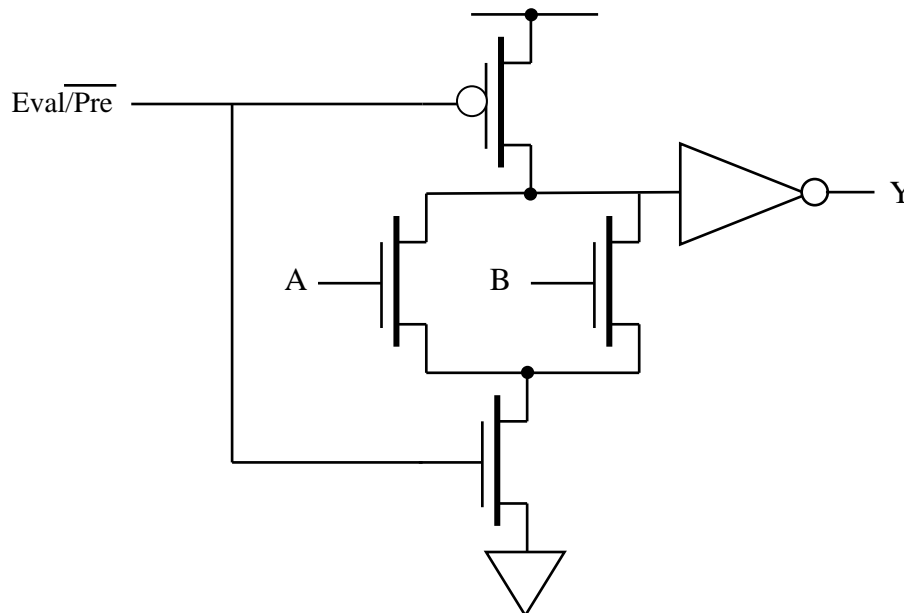

Figure 4: Domino Logic Circuit
4. The circuit shown in **Figure 4** is not a standard CMOS circuit but is from a logic family called Domino Logic.